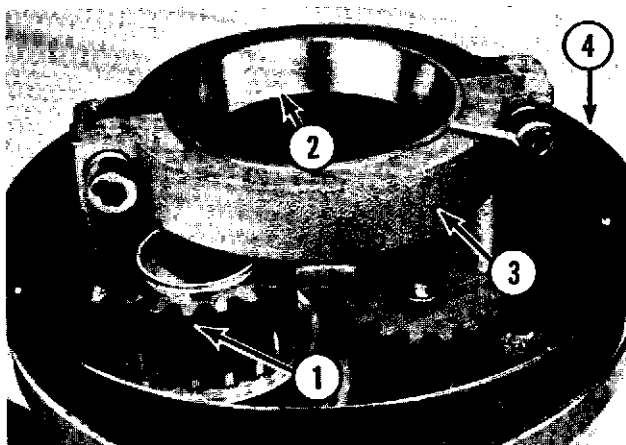

Fig. 10-14
J. Seal the retaining cap with Permatex #2 and install it into the pinion (1, Fig. 10-14).
K. Install the bearing cup (2, Fig. 10-14) and bearing cap (3, Fig. 10-14) using the two socket head screws.
5. Planetary Upper Extension (4, Fig. 10-14).